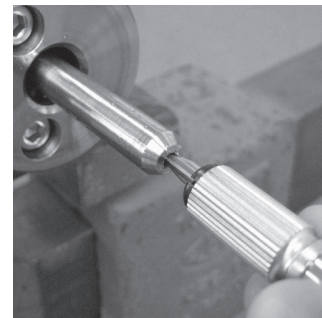

Fig. 26 Deburr the tube ID
23. Deburr the tube ID. (Fig. 26)